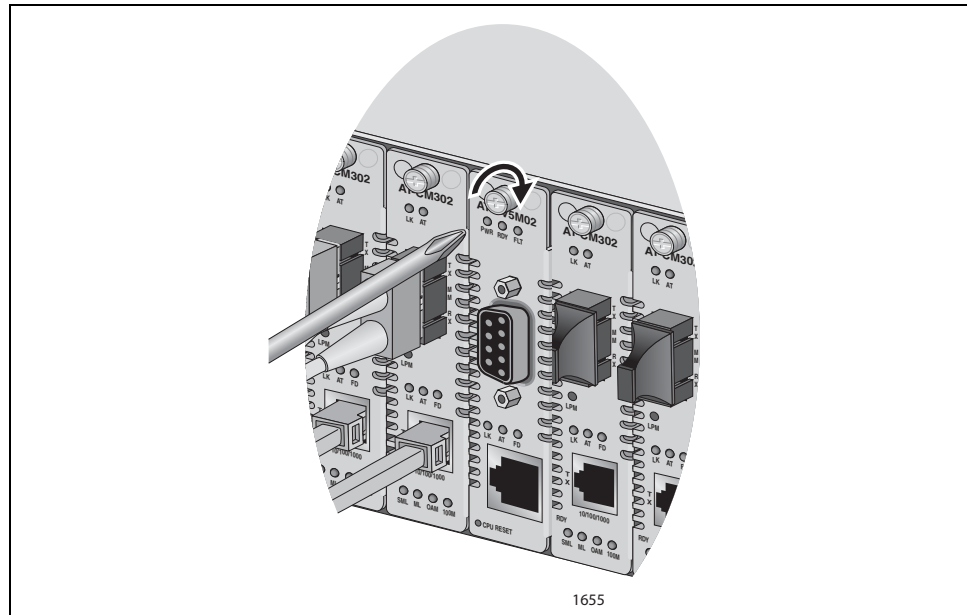

Figure 25. Tightening the Captive Screw
5. Use a Phillips screwdriver to tighten the captive screw to secure the card to the chassis, as shown in Figure 25.